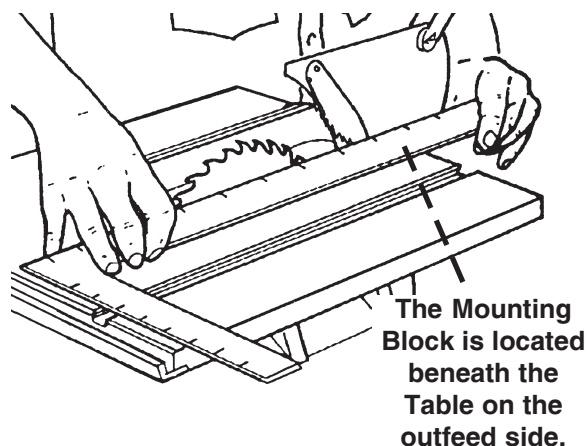

Figure 100
- Raise the Upper Guard and lay a Straight-edge on the Worktable so that it touches the Blade and the Splitter, as demonstrated in Figure 100.